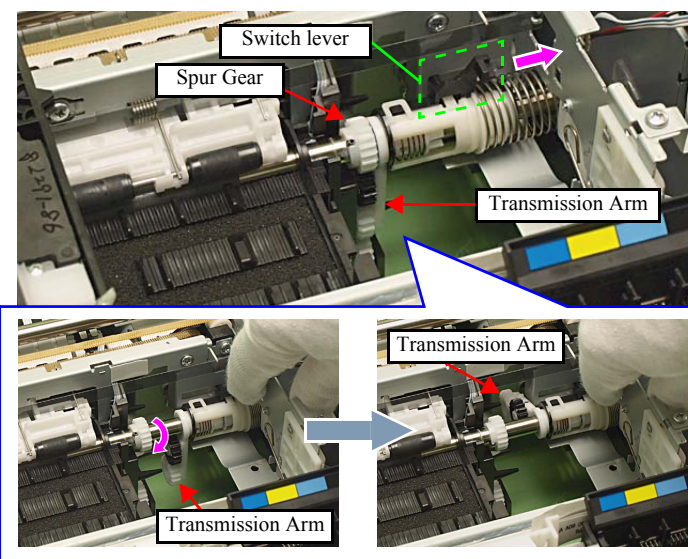

Figure 4-86. Installing the Ink System (2)
5. Push the switch lever in the direction of the arrow and turn the spur gear (see Fig. 4-86.), then align the Transmission Arm to the position A (Ink System operation point) shown in Fig. 4-87.